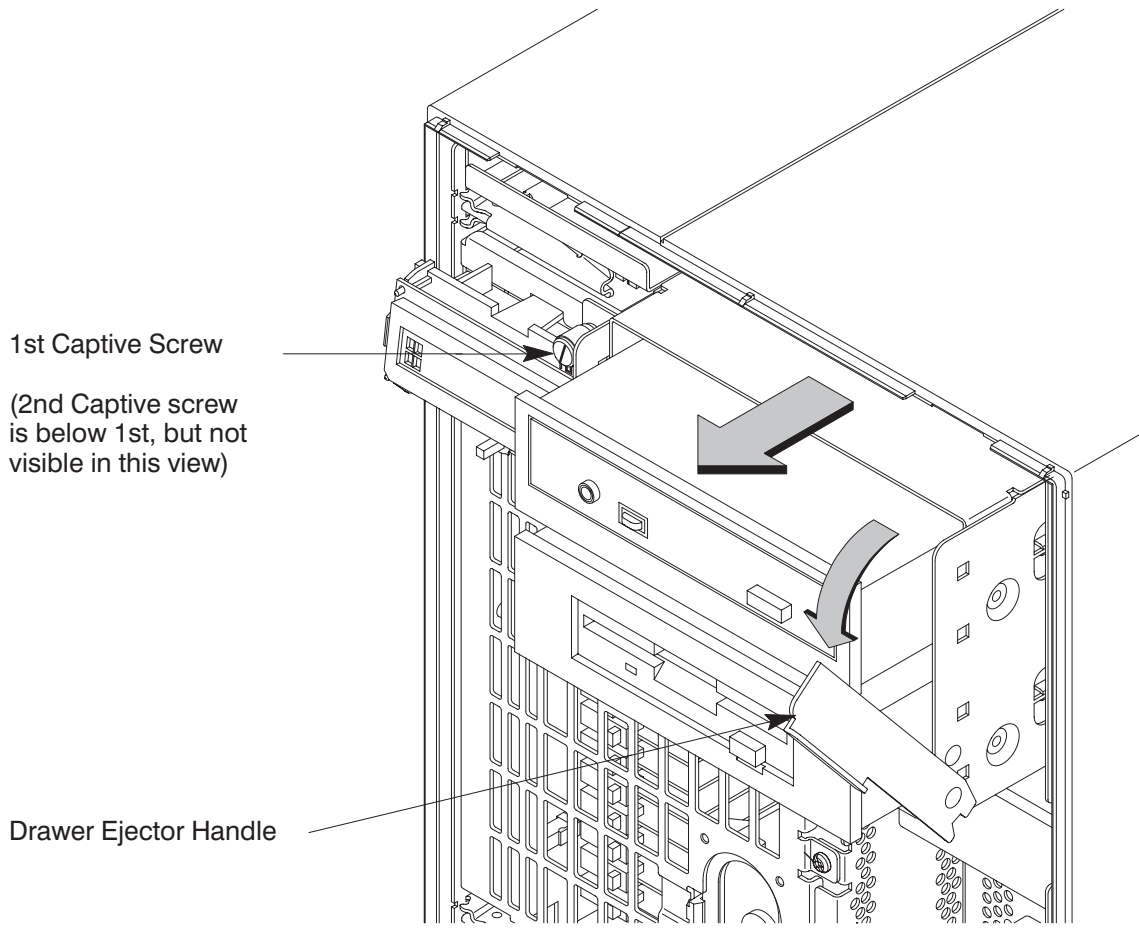

Figure B-19. Removing Storage Drawer from System Unit
- 2.** Unscrew the two captive screws on the left side of the Storage Assembly and pull down the drawer ejector handle on the right side of the Storage Assembly, as shown in Figure B-19.